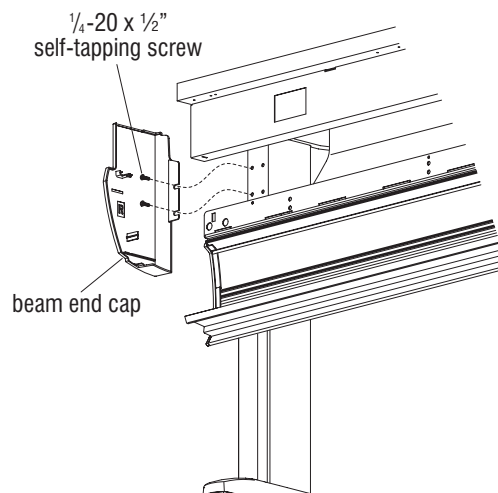

Figure 4
1. Snap the beam end cap into the open end of the steel power and data beam. Secure the end cap to the leg as illustrated with two $\frac{1}{4}$ -20 x $\frac{1}{2}$ " self-tapping screws (Figure 4).